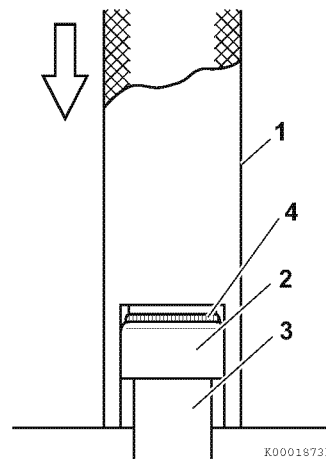

Figure 6-29
The exhaust valve stem seals are different than the intake valve stem seals and can be identified by either the paint marks on the outside of the seals or by the color of the seal spring (**Figure 6-29, (4)**). Ensure they are installed in the correct locations.
1. Oil the lip of the valve stem seal (**Figure 6-29, (2)**). Using the valve stem seal installation tool (**Figure 6-29, (1)**), install a new valve stem seal on each of the valve guides (**Figure 6-29, (3)**).